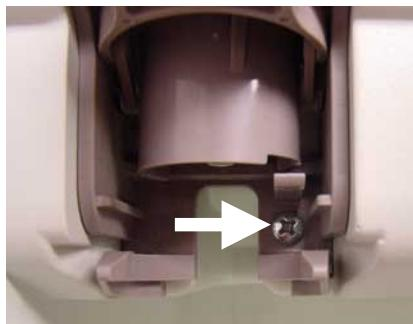

Fig. 3-69 Docking mechanism mounting screw
4. Open the mounting screw of docking mechanism C1 (or C2) (see Fig. 3-69).